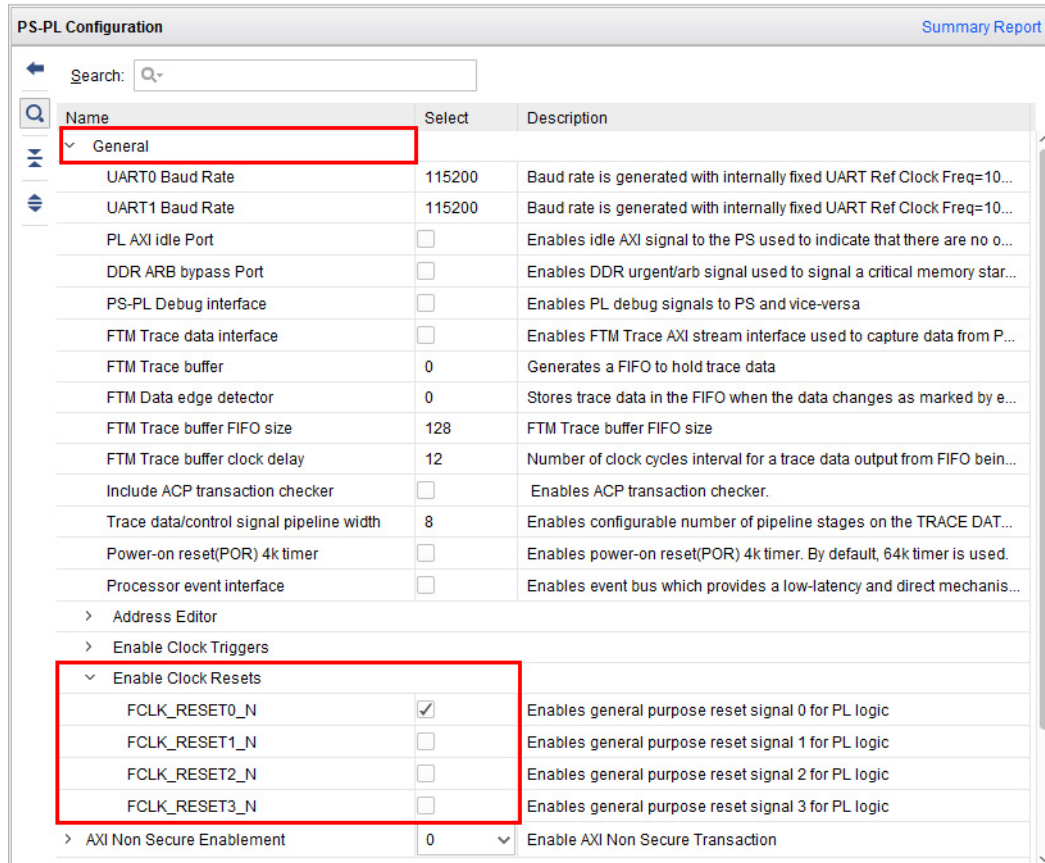

Figure 6-23: Enable the Resets to the PL Fabric
6. Expand **Enable Clock Resets** and select the appropriate resets for the PL fabric, as shown in Figure 6-23.